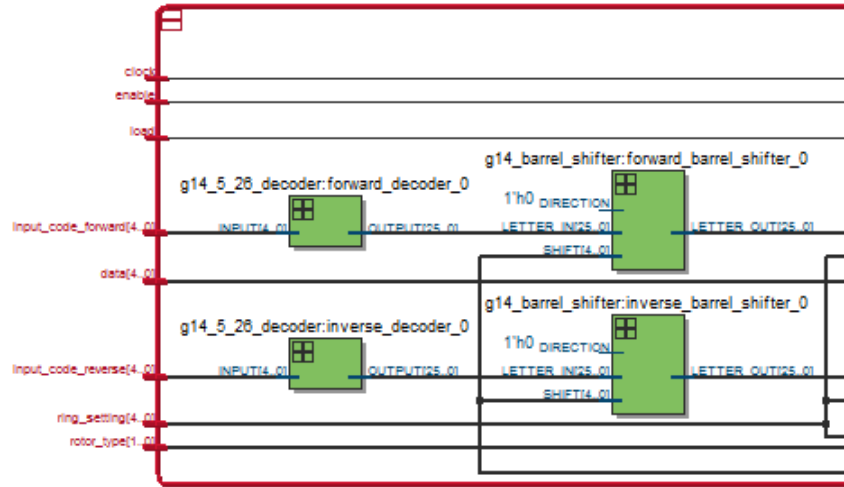

Figure 9: The input ports and first layer of components of the rotor.
The rotor circuit has a forward and reverse direction. The actual circuit is fairly linear, especially when compared to the Enigma machine. Figures 9 through 13 show the traversal of the rotor circuit. Let's again follow the input code through the circuit, explaining the various transformations that happen along the way. We will only consider the *input_code_forward*, but the reverse path is pretty much exactly the same except for a difference in values on the shifting directions for some of the barrel shifters. The idea behind this difference in direction is that the input sequence is invertible: if you put a particular letter in in a particular rotor setting, then putting the result in as the input will yield the original input at the output. That being said, let's follow the *input_code_forward* through the circuit.
1. The input code goes into the `forward_decoder_0` which decodes the 5 bit input (interpreted as an unsigned) into the appropriate one hot encoded 26 bit binary representation. Ex: If the input code is '00110' (6), then the sixth least significant bit of the output 26 bit vector will be asserted. This can be seen in figure 9.
2. The now decoded signal goes into the `forward_barrel_shifter_0` where it is shifted to the right based on the current counter value. This can also be seen in figure 9.